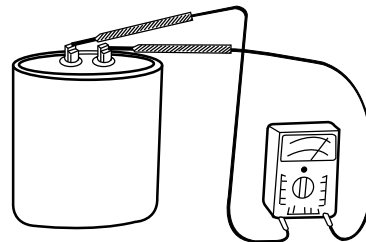

Figure 2.
(3) After discharging, contact both terminals of tester with the terminal of condenser to see the dial vibrating direction of resistor. (See Figure 2.)